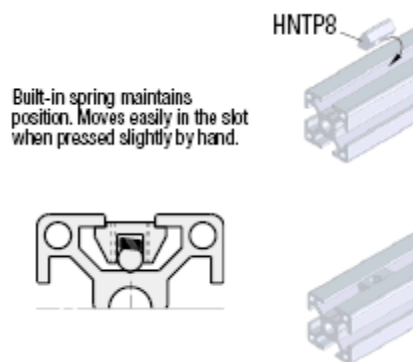

Figure 2-3 Installing the insertion nuts into the aluminum extrusion channel
4. Next, prepare to install all components to the Pedestal Mount using the supplied fastener components. The insertion nuts install into the Pedestal Aluminum Extrusion channel and contain a spring-loaded ball feature to hold them in place during assembly. To install the insertion nuts into the Aluminum Extrusion channel, insert the insertion nuts into the extrusion channel at an angle as shown in Figure 2-3, below: